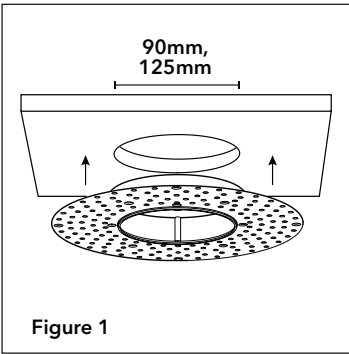

Figure 1
1. Make ceiling cutout to recommended dimension. Pull line, ground, neutral, and dimming lines through ceiling opening and connect to power supply (Fig. 1).
1. Make ceiling cutout to recommended dimension. Insert mud ring in ceiling (Fig. 1).